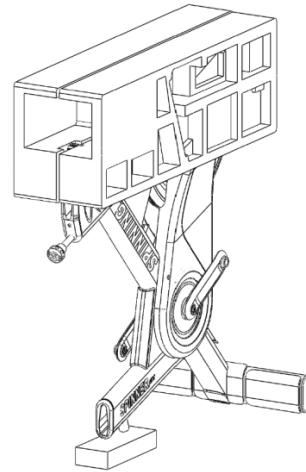

Fig. 10
10. Stand the Spinner frame on the opposite end and place a piece of foam or rag under the seat post frame section (Fig. 10).